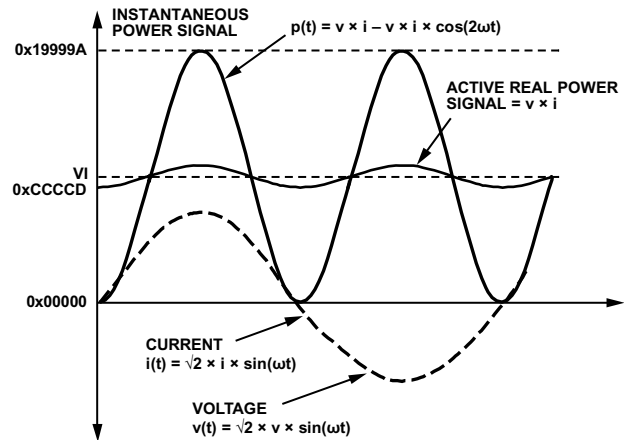

Figure 49. Active Power Calculation
Note that the active power is equal to the dc component of the instantaneous power signal $p(t)$ in Equation 9, that is, VI . This is the relationship used to calculate active power in the ADE7518. The instantaneous power signal $p(t)$ is generated by multiplying the current and voltage signals. The dc component of the instantaneous power signal is then extracted by LPF2 (low-pass filter) to obtain the active power information. This process is illustrated in Figure 49.
The ADE7518 also incorporates an active power offset register (WATTOS[15:0]). It is a signed, twos complement, 16-bit register that can be used to remove offsets in the active power calculation (see Figure 49). An offset can exist in the power calculation due to crosstalk between channels on the PCB or in the IC itself. The offset calibration allows the contents of the active power register to be maintained at 0 when no power is being consumed.
As mentioned previously, the discrete time sample period (T) for the accumulation register is $1.22 \mu\text{s}$ ($5/\text{MCLK}$). With full-scale sinusoidal signals on the analog inputs and the WGAIN register set to 0x000, the average word value from each LPF2 is 0xCCCCD (see Figure 49). The maximum positive value that can be stored in the internal 49-bit register is 2^{48} (or 0xFFFF,FFFF,FFF) before it overflows. The integration time under these conditions when $\text{WDIV} = 0$ is calculated in the following equation: